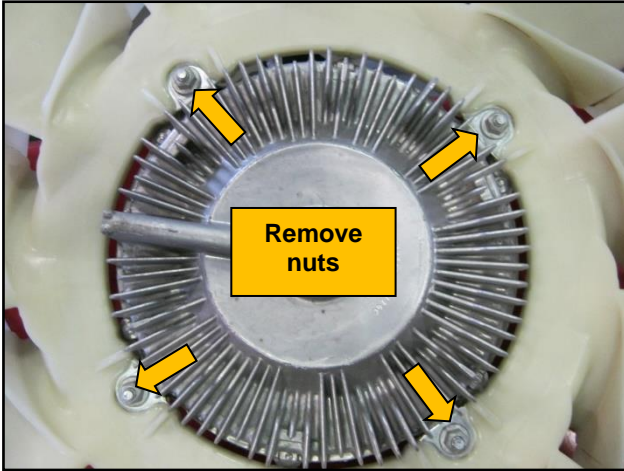

Figure 13 – Modifying the fan
- Remove the 4 nuts securing the fan body to fan clutch and remove fan body. Discard nuts. (Figure 13)